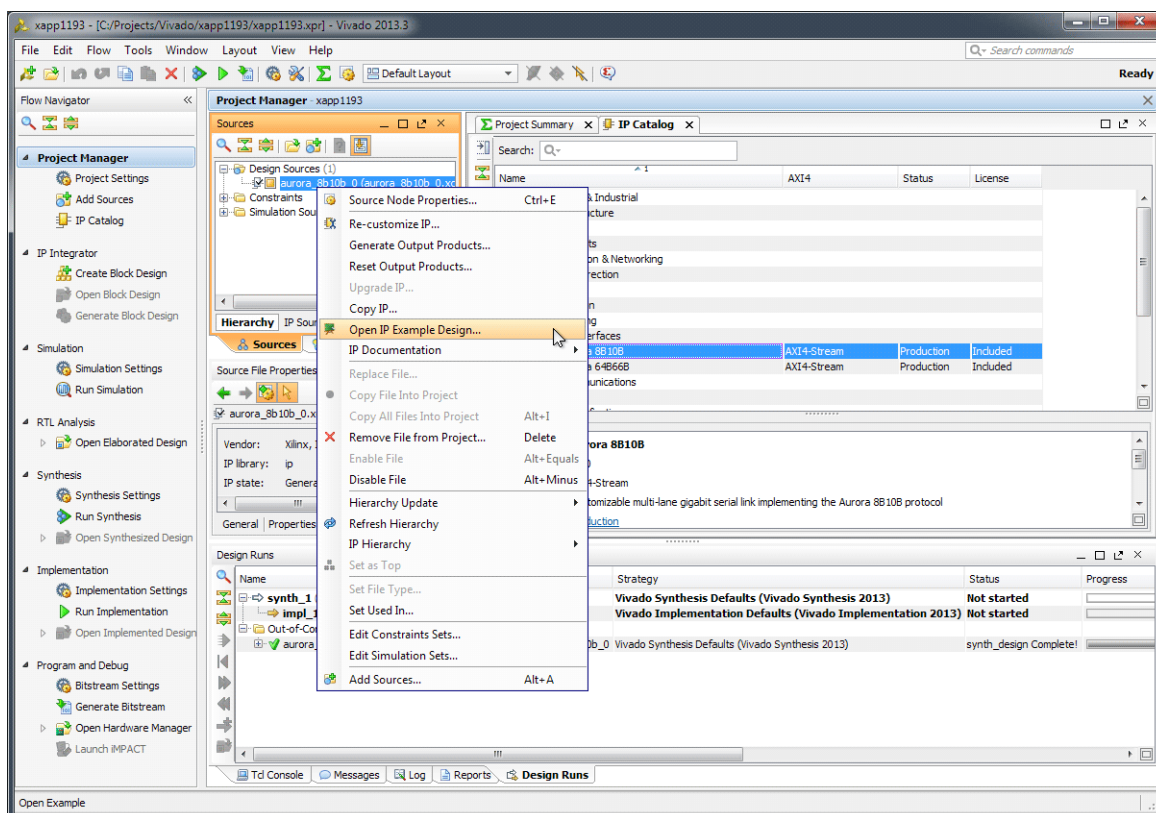

Figure 6: Open IP Example Design
1. When product generation is complete, in the Project Manager section of the Vivado IDE, right-click the core name and select **Open IP Example Design** (see Figure 6).